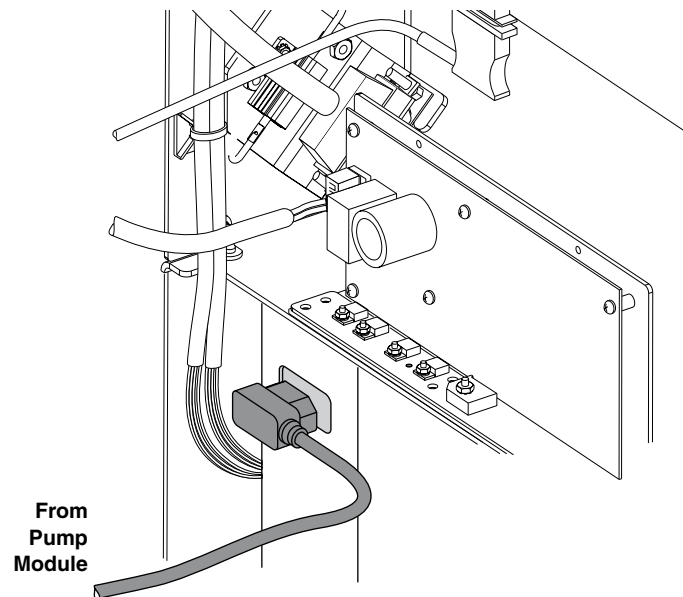

Figure 2-8 AC power connection from pump module
7. Plug the black power cord from the pump module into the receptacle at the lower part of the column module (Figure 2-8).